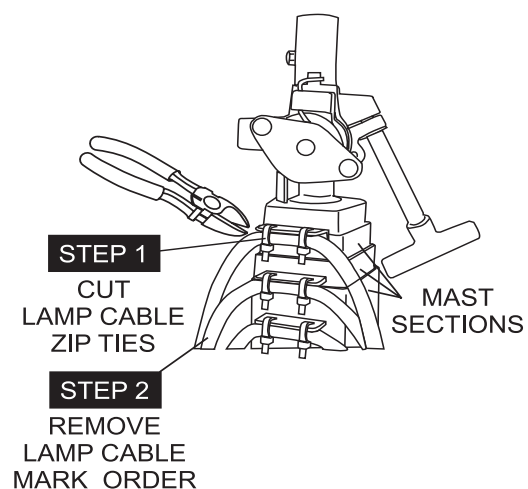

Figure 33. Cutting the Lamp Cable Zip Ties
1. Cut all the cable zip ties (Figure 33) that secure the lamp cable to the various mast sections.
2. Using zip ties connect the lamp power cable to the various mast sections as shown in Figure 33. Remember to connect the lamp cables to the mast in the same order that they were removed.